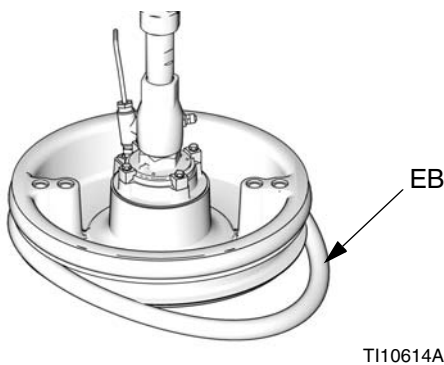

FIG. 16
1. Using a wooden or plastic tool to prevent damage to the wiper (EB), clean all material from seal grooves.
2. *Working from the bottom*, angle one wiper (EB) over back of platen. See FIG. 16.
3. Insert wiper (EB) in top groove and run front of wiper into groove.
4. *55 gallon wiper only:* Insert second wiper (EB) in lower groove and run front of wiper into groove.